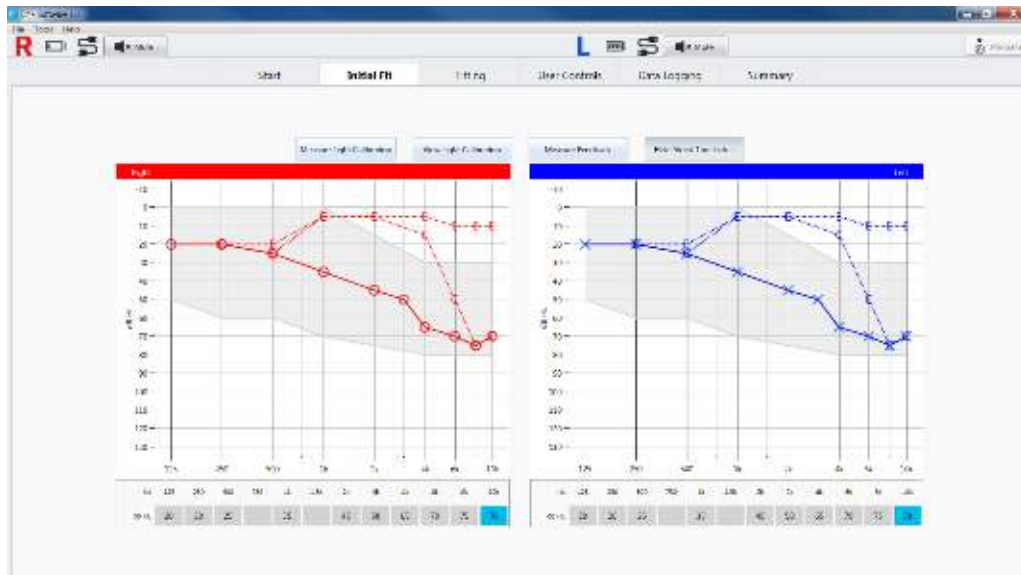

Figure 34. Initial Fit screen: Show Aided Thresholds
- View data in Initial Fit screen, by clicking on “Show Aided Thresholds” (Figure 34). Aided thresholds for Earlens are represented by the letter ‘E’, while conventional hearing aid thresholds are represented by the letter ‘C’ at each test frequency.